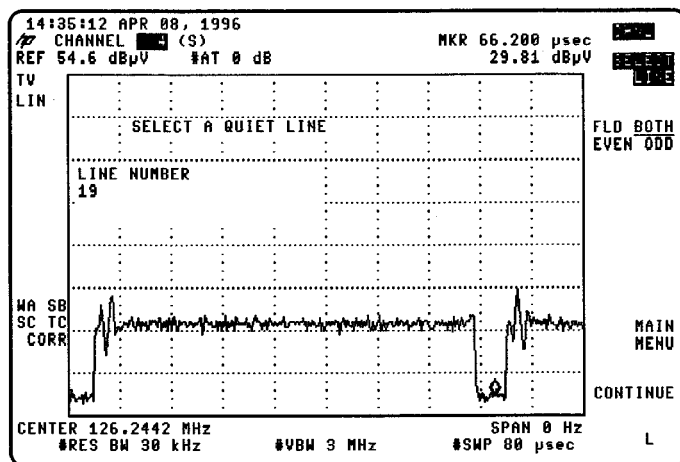

Figure 2-13. Quiet Line
X.XX MHz is the measurement bandwidth selected from the **MESMNT BW** in the Setup menu and YY.Y dB is the RMS noise measured across the X.XX MHz bandwidth. (See Figure 2-13.)